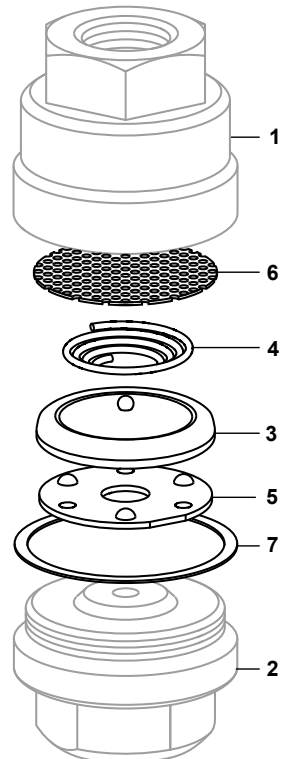

Fig. 2
6.2 How to replace the internals (reference Figure 2)
- Remove the cap (2) using a spanner.
- Lift out the screen (6), spring (4), capsule (3), and spacer plate (5).
- Replace with new internals in the correct order. Make sure the conical spring (4) is positioned with the narrow end in contact with the capsule.
- Fit a new gasket (7).
- Refit the cap (2) using a little anti-seize compound on the threads and tighten to the recommended torque (see Table 1).